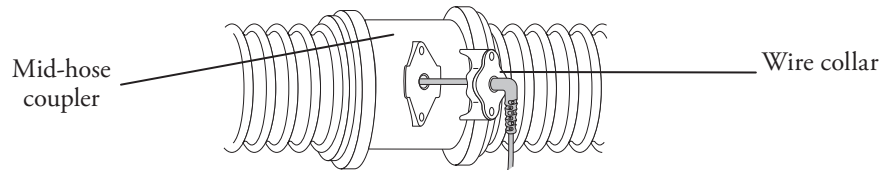

Figure 14. Removing the existing controller wire from the hose.
7. To replace the hose or controller remove the two screws that connect the wire collar to the mid-hose coupler and pull the wire out through the dedicated hole (see Figure 14).